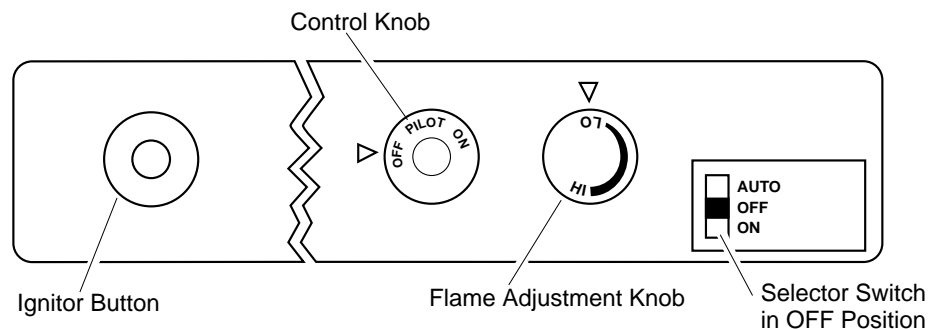

Figure 21 - Control Knob and Ignitor Button Location
- Press in and turn control knob clockwise  to the OFF position (see Figure 21).
- Wait five (5) minutes to clear out any gas. Then smell for gas, including near the floor. If you smell gas, **STOP!** Follow "B" in the safety information above. If you don't smell gas, go to the next step.
- Press in and turn control knob counterclockwise  to the PILOT position. Press in control knob for five (5) seconds (see Figure 21).